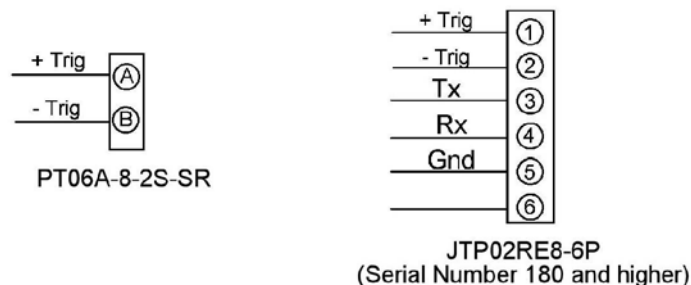

Figure 7 - Trigger wiring
- 5) If external triggering is to be used, connect the Trigger Input. Wiring information may be found in Figures 7 and 8.
DSA 3207 and DSA 3307 modules use a 6 pin connector for a combination Trigger and Serial Communications Interface. The wiring of the trigger input connector for both configurations is shown in Figure 7.